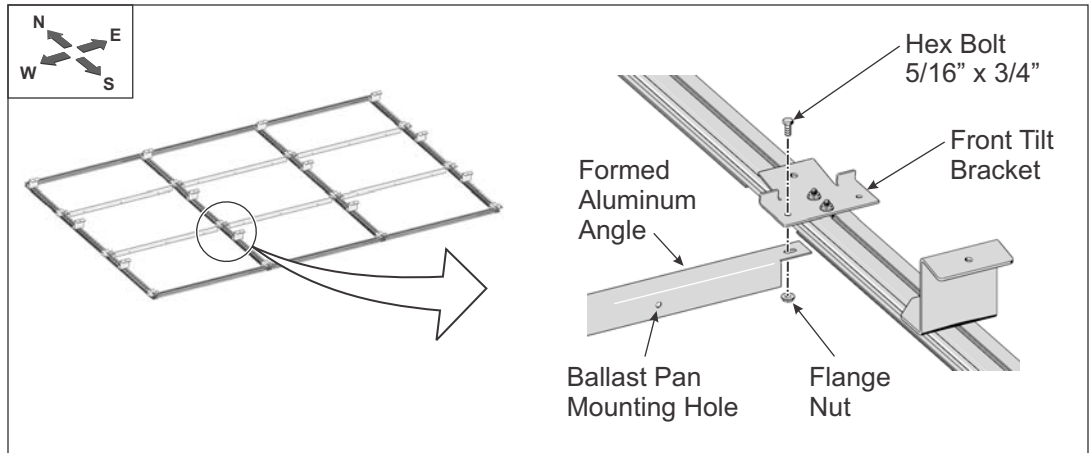

Figure 9-1: Installing the Formed Aluminum Angles
- A. Starting at the first set of interior Front Module Tilt Brackets, install an E-W Formed Aluminum Angle by aligning its mounting hole with the mounting hole of the Front Module Tilt Bracket (See Figure 9-1).